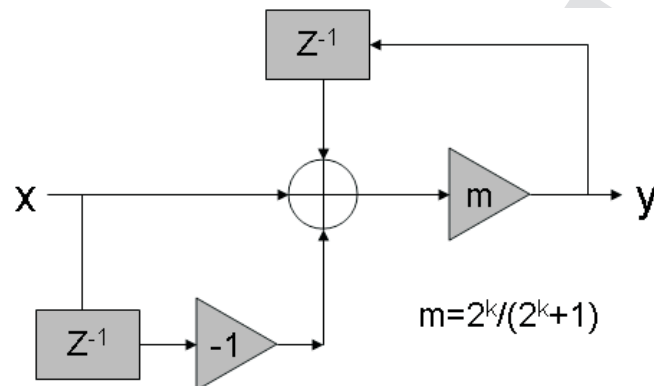

Figure 61. HP Filter Block Diagram
The ADS5292 includes optional first-order digital high-pass (HP) IIR filter. Figure 61 shows the device block diagram and transfer function.